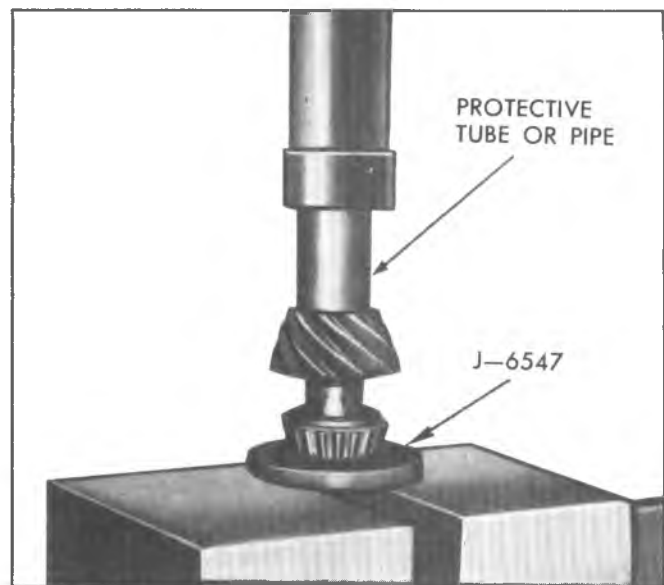
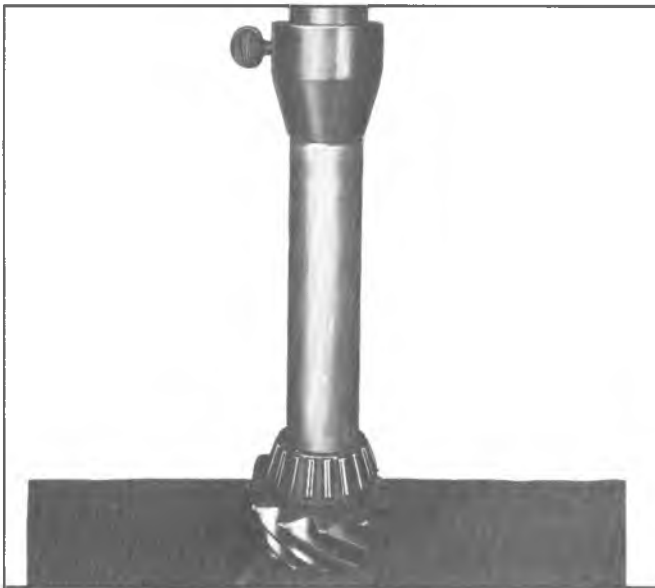

Fig. 23B—Installing Rear Bearing—Passenger Car
Fig. 24B—Installing Rear Bearing—Truck
17. Lubricate the rear pinion bearing with liberal amounts of hypoid lubricant and install rear bearing. Use J-6547 as shown in figure 23B for passenger car models. Use J-5590 for truck models, as shown in figure 24B.